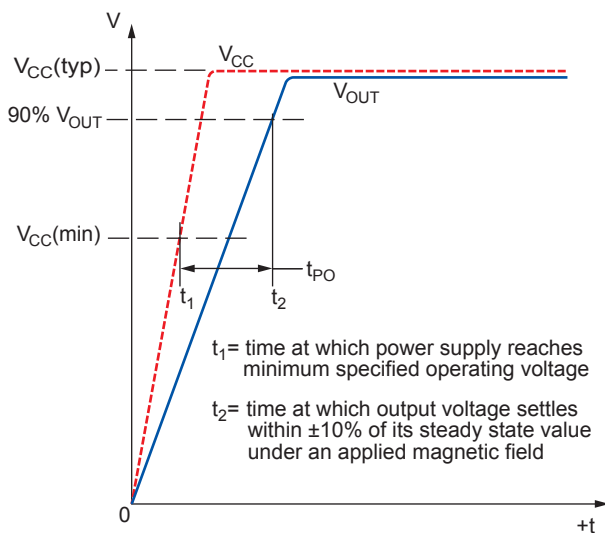

Figure 1. Definition of Power On Time,  $t_{PO}$
**Power On Time** When the supply is ramped to its operating voltage, the device output requires a finite time to react to an input magnetic field. Power On Time,  $t_{PO}$ , is defined as the time it takes for the output voltage to begin responding to an applied magnetic field after the power supply has reached its minimum specified operating voltage,  $V_{CC}(\min)$ , as shown in figure 1.